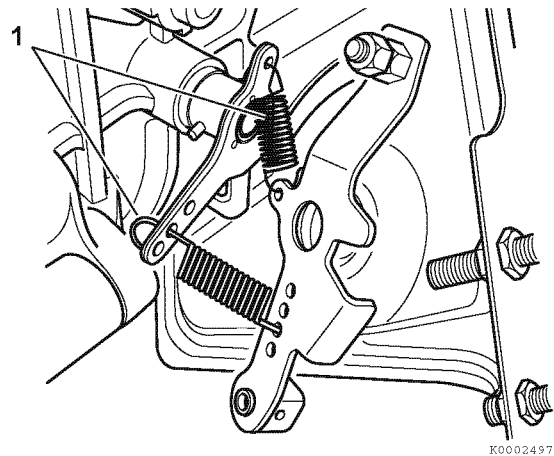

Figure 6-80
2. Pull the assembly away from the crankcase (1, **Figure 6-80**) and mark the position of each spring end for reassembly. Carefully remove each spring.